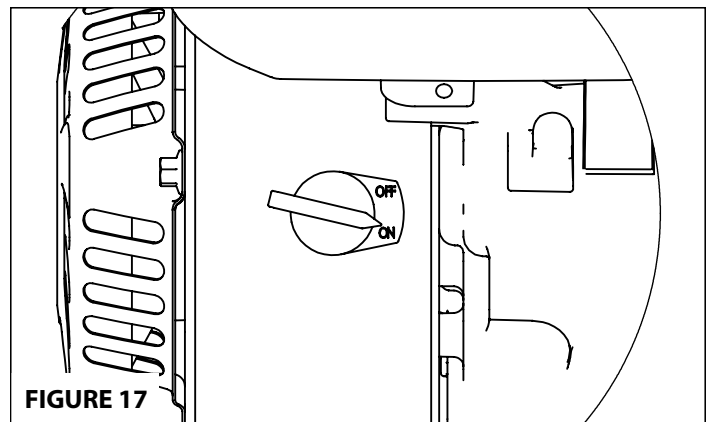

FIGURE 17
3. Turn the On/Off switch to the **ON** position. **SEE FIGURE 17.**